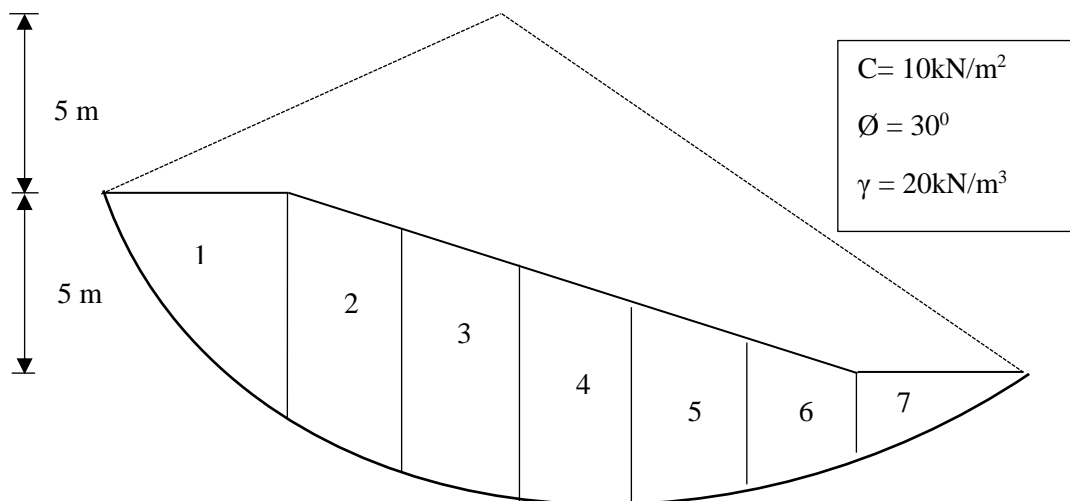

Figure B4(b) / Rajah B4(b)
- (b) Based on **Figure B4(b)** and **Table B4(b)** below, determine the factor of safety for the slope by using Fellenius slices method.